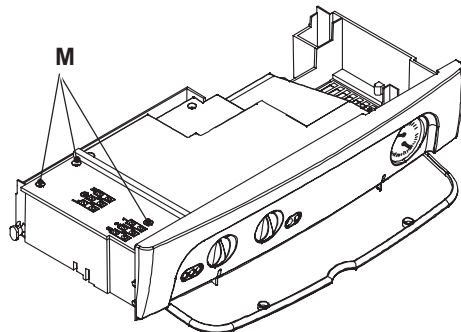

Fig. 6.15
- Loosen the screws M and remove the service panel (Fig. 6.15).